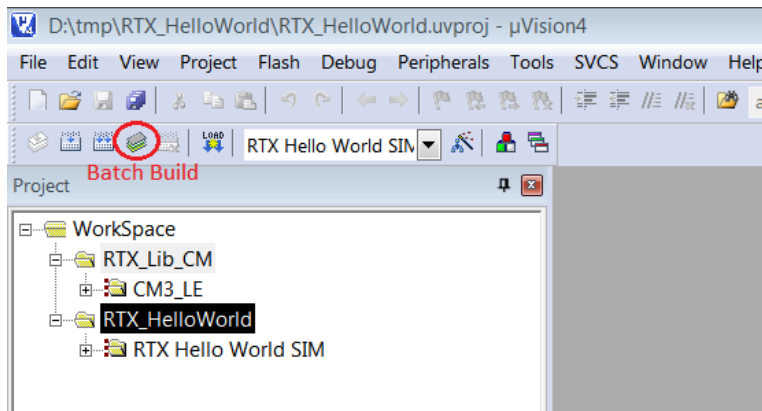
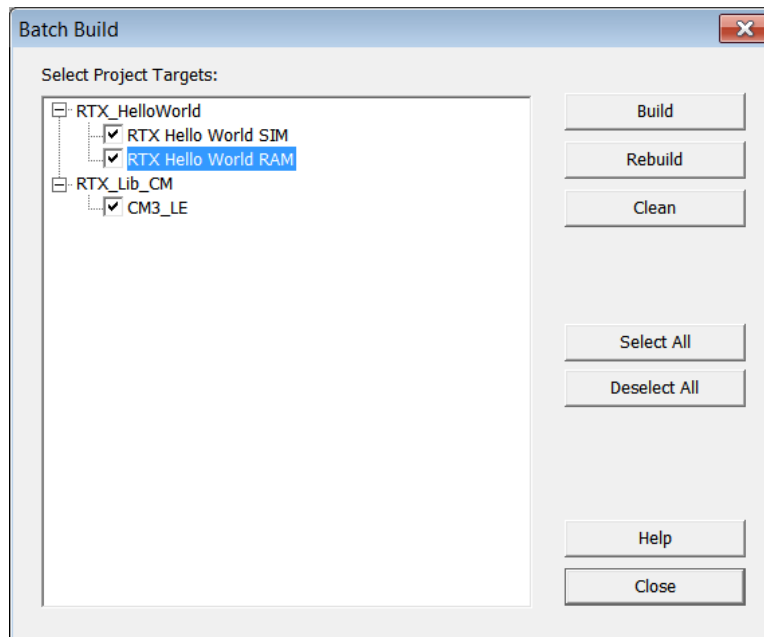

Figure 1.23: Keil IDE: Workspace with Two Projects
Figure 1.24: Keil IDE: Batch Build
4. Two projects appear under the Project Window (see Figure 1.23. Click the Batch Build button (see Figure 1.23 to bring up the Batch Build window. Select all the targets you want to build in a batch (see Figure 1.24). By setting up batch build, multiple targets can be built by a single click of the Build button inside the batch build dialogue box ².